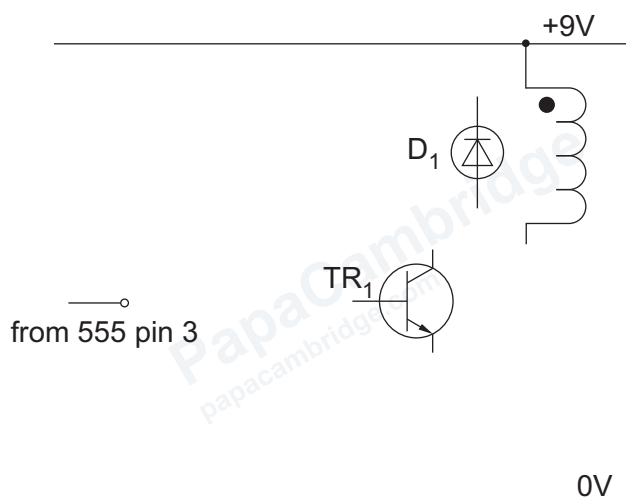

Figure 12.3
- (iv) The output of the circuit will operate a solenoid in the door lock. Complete Figure 12.3 to show how an NPN bipolar transistor can be used to operate the solenoid.